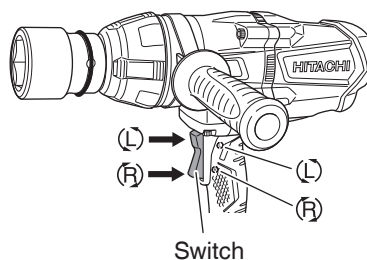

Fig. 5
1. Operation of switch (Fig. 5)